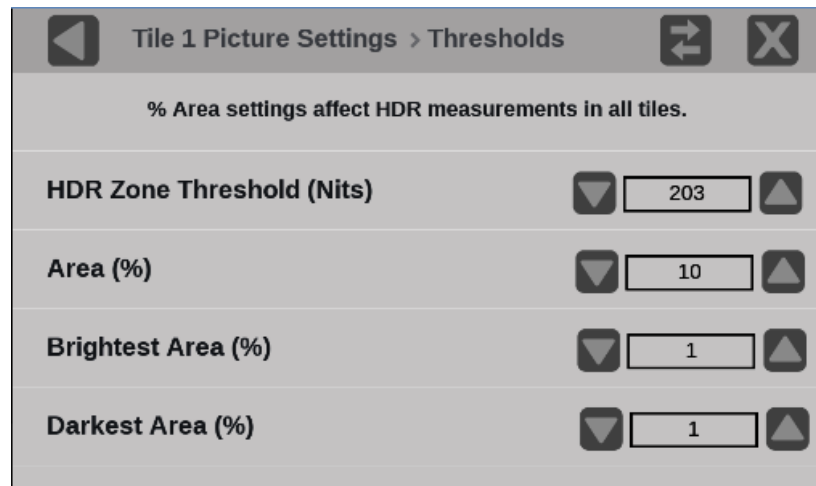

Figure 128: Picture Settings with Measurement Threshold menu
Select the picture measurements to see in the overlay. For many of the parameters a threshold setting is required. See the Measurement Threshold menu for setting these thresholds. (See Figure 128.)
2. Select the **Measurement Thresholds** menu item. (See Figure 128.)